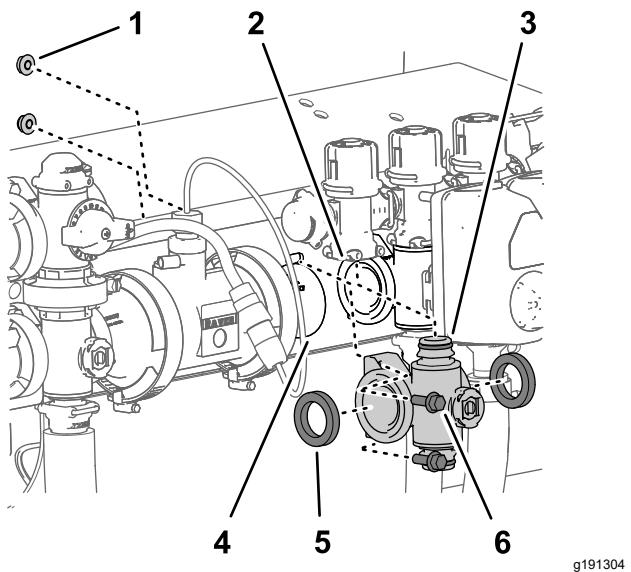
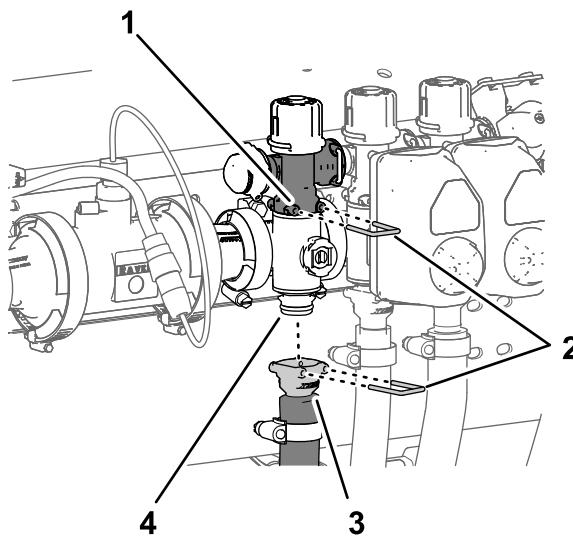

Figure 122
Figure 123
1. Align the 2 gaskets that you removed in Removing the Section-Manifold Valve \(page 82\) to the flanges of the section-valve manifold (Figure 122).
2. Align the flange of the section-valve manifold between the flanges of the other section-valve (s) and/or coupling adapter (Figure 122).
3. Assemble the quick-connect fitting of the section-valve manifold to the quick-disconnect socket of the section-bypass valve with a quick-connect pin (Figure 122 and Figure 123).
5. For left or right section-valve manifolds, assemble the section-valve manifold to the valve support (Figure 122) with the 2 flange-head bolts (1/4 x 3/4 inch) and 2 flange locknuts (1/4 inch) that you removed in Removing the Section-Manifold Valve \(page 82\).
8. Assemble the quick-connect coupler of the section hose onto the quick-connect fitting of the section-valve manifold with the quick-connect pin (Figure 123).